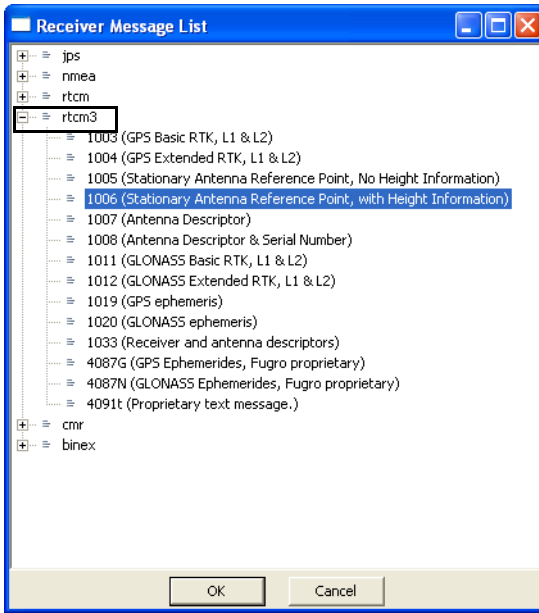

Figure 3-25. Choose Message
13. For the Rover receiver, click the **Positioning** icon, and set the following parameters, then click **OK** (Figure 3-25 on page 3-28).